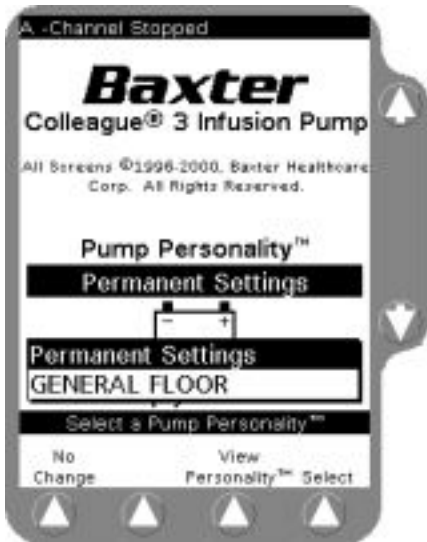

Figure 5-35 Examples of Custom Personality Feature Sets
2. Use the  $\uparrow\downarrow$  keys to highlight the desired Personality feature set (Figure 5-35).